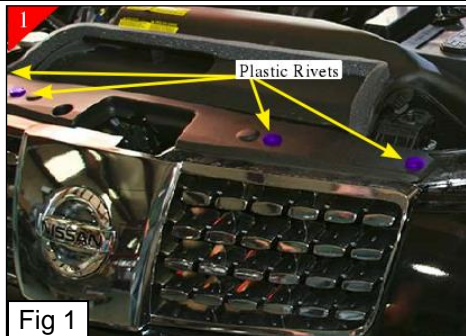

Fig 1
| 2    | Pop hood, remove (4) plastic rivets that hold the black plastic cover in place by prying up on the rivet.(Fig 1)   |  |